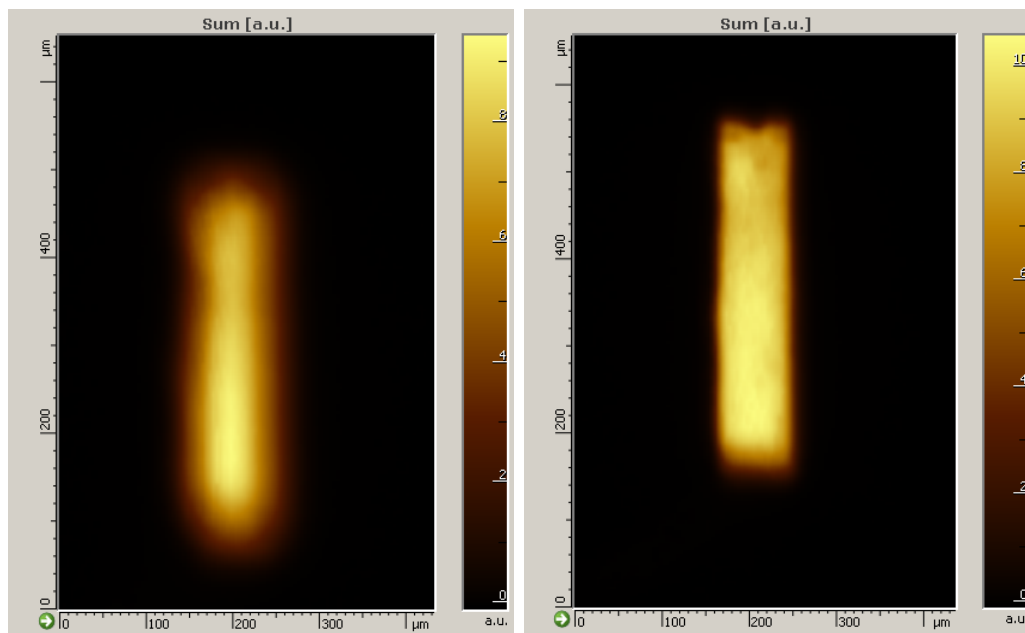

Figure 8.4.4 Images of the fpN03 cantilever obtained in the Motoscan mode before the adjustment (left) and after (right).
- Use the Motoscan mode to obtain a more detailed image (Fig. 8.4.4);
- Obtained a new detailed image of the cantilever using the Motoscan mode (Fig. 8.4.4);